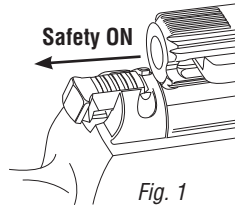

Fig. 1
- To set the safety to 'ON', pull safety button. In this position, the trigger cannot be pulled and the gun cannot be fired. (Fig.1)
CAUTION: Until you are actually ready to shoot, keep the safety button in the "ON" position (Fig. 1).